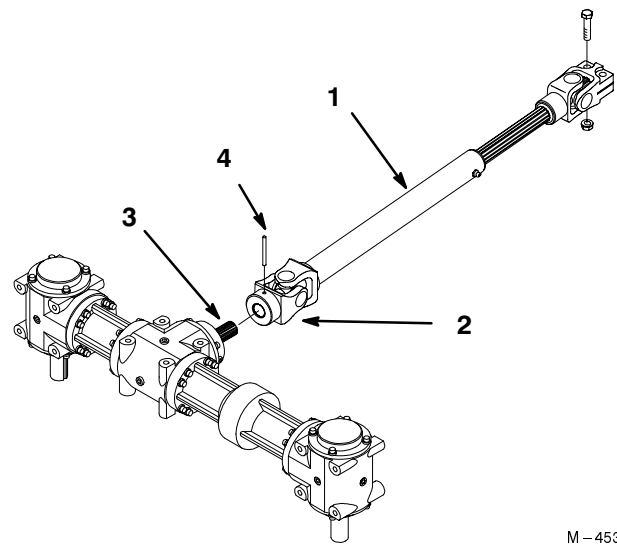

Figure 35
- Rotate PTO drive shaft so holes align with hole in gearbox shaft and slide together (Fig. 35).
- Drive roll pin through hole to secure PTO drive shaft to gearbox shaft (Fig. 35).